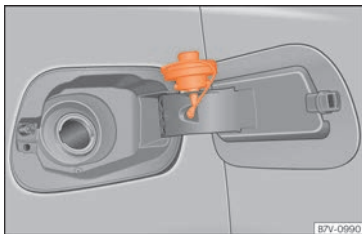

Fig. 280 Fuel tank flap with tank cap attached.
- Place it in the space on the hinge of the open flap »» Fig. 280.